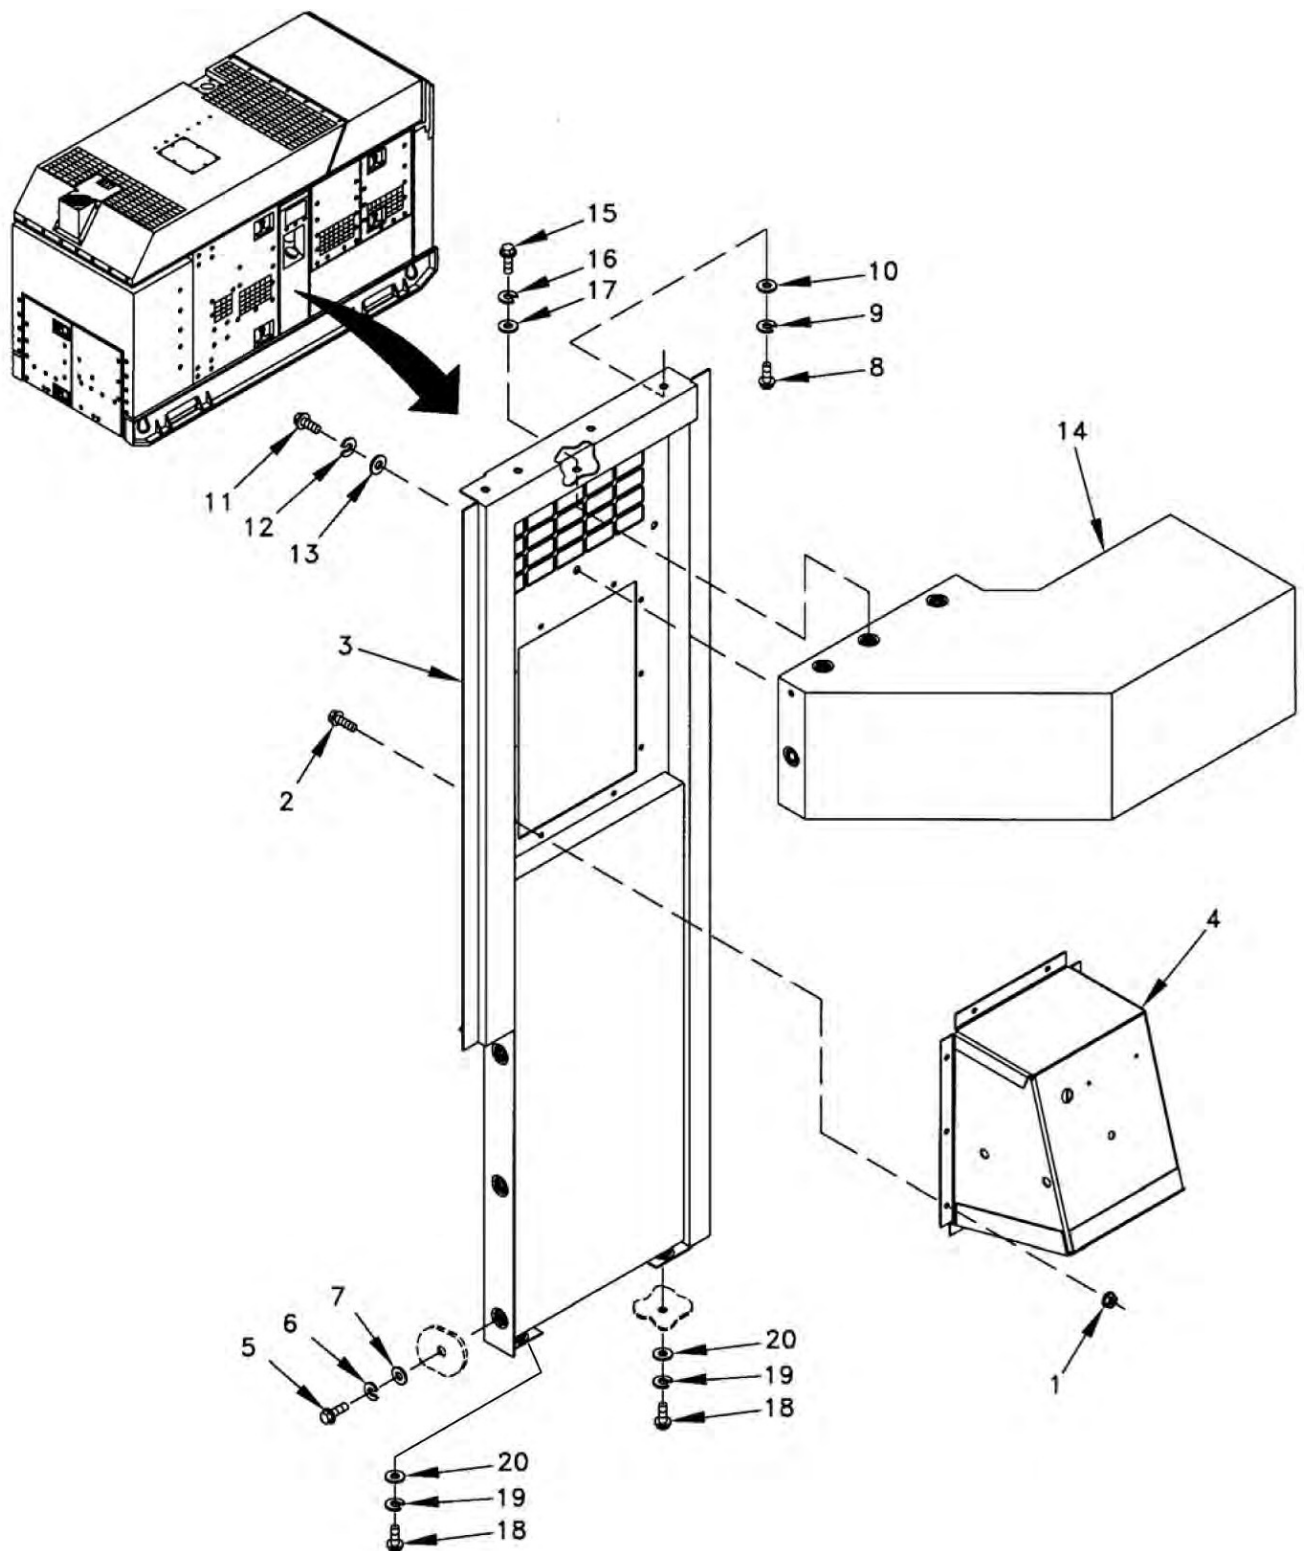

Figure 1. Left Center Panel Assembly.
1. Remove ten nuts (Figure 1, item 1) and screws (Figure 1, item 2) to release left center panel assembly (Figure 1, item 3) from fuel filler neck pocket (Figure 1, item 4).
2. Remove three screws (Figure 1, item 5), lock washers (Figure 1, item 6), and washers (Figure 1, item 7) from left center panel assembly (Figure 1, item 3).
3. Remove three screws (Figure 1, Item 8), lock washers (Figure 1, Item 9), washers (Figure 1, Item 10), and left center panel assembly (Figure 1, Item 3).
4. Remove two screws (Figure 1, Item 18), lock washers (Figure 1, Item 19), and washers (Figure 1, Item 20).
Remove bolts and washers (Figure 1, Items 18, 19, 20, and WP 0037, Figure 1, Items 4, 5, 6).
Align drain guard with holes indicated and install bolts and washers (Figure 1, Items 18, 19, 20, and WP 0037, Figure 1, Items 4, 5, 6).
1. Remove four screws (Figure 1, Item 11), lock washers (Figure 1, Item 12), and washers (Figure 1, Item 13), from duct (Figure 1, Item 14).
2. Remove four screws (Figure 1, Item 15), lock washers (Figure 1, Item 16), and washers (Figure 1, Item 17), from duct (Figure 1, Item 14).
2. Install duct (Figure 1, Item 14), and secure with four washers (Figure 1, Item 17), lock washers (Figure 1, Item 16), and screws (Figure 1, Item 15).
3. Install four washers (Figure 1, Item 13), lock washers (Figure 1, Item 12), and screws (Figure 1, Item 11).
1. Install left center panel assembly (Figure 1, Item 3), and secure with four washers (Figure 1, Item 10), lock washers (Figure 1, Item 9), and screws (Figure 1, Item 8).
2. Install two washers (Figure 1, Item 20), lock washers (Figure 1, Item 19), and screws (Figure 1, Item 18).